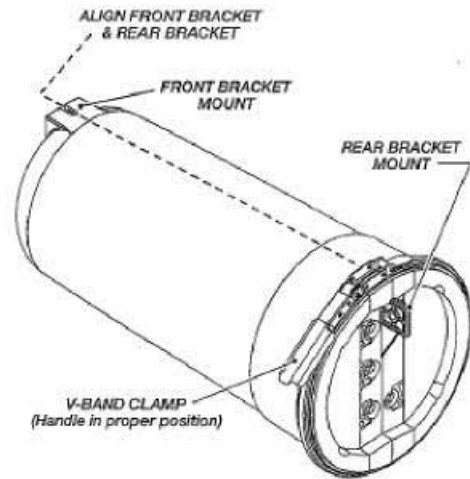

Figure 12 - Alignment of Mounting Brackets
18.01 Position front hanger bracket mount of dome inline with the rear bracket mount on the center-section and slide the dome over the assembly. Assure that the O-Ring has not slipped and is not pinched when the dome is seated. Refer to **Figure 12 – Alignment of Mounting Brackets** and **Photo 18 – Dome Alignment**.